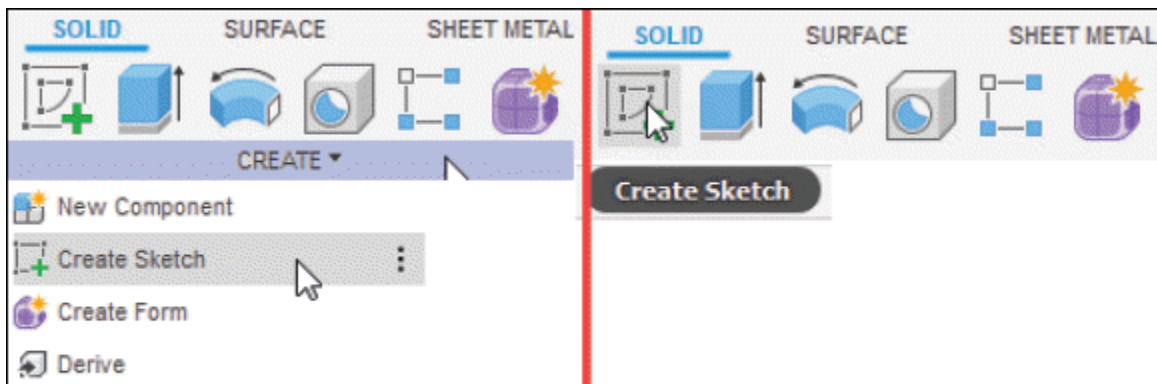
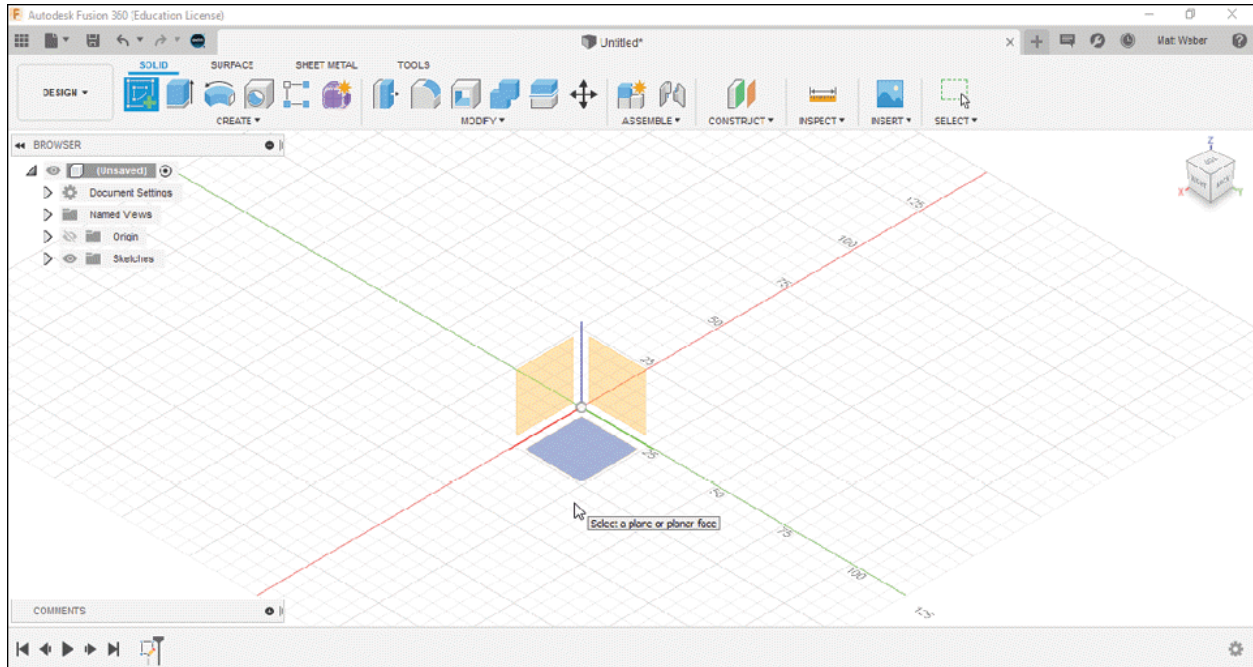

Figure-106. Create Sketch tool
Figure-107. Select plane for sketch
- Select the **Create Sketch** tool from **CREATE** drop-down; refer to Figure-106. You will be asked to select a sketching plane; refer to Figure-107.